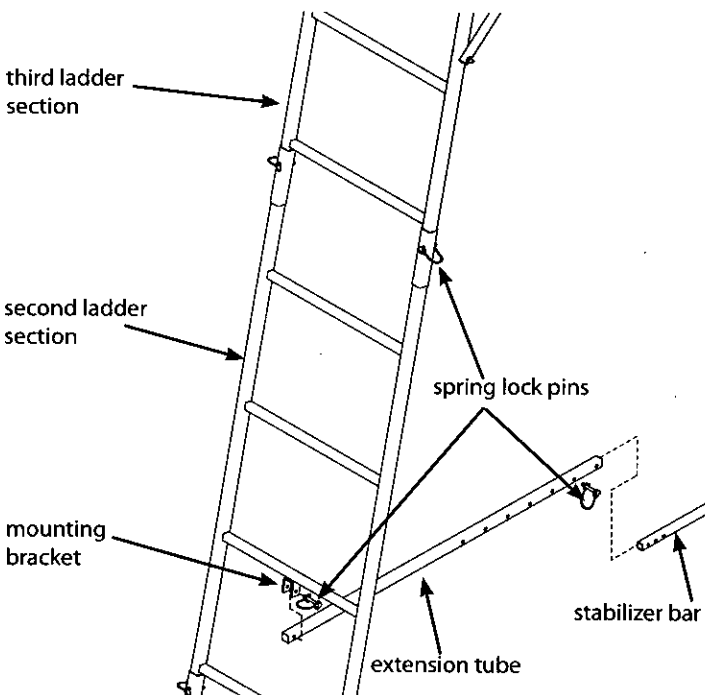

Figure 7
16. The remaining (2) ladder sections are assembled to the top ladder assembly on the ground in the following order: bottom section (SL51 ladder); second section (SL52 ladder); third section (SL78 ladder); top section (assembled top, platform section). **SEE FINISHED 17' SPIN SHOT LADDER.**
17. With all sections assembled together on ground, secure all sections together using (4) provided spring lock pins. Handle of spring lock pin must be put to the outside of ladder side rails. **SEE FIGURE 7.**
18. a. Attach the stabilizer bar extension tube (48053) to the second ladder section mounting bracket using (1) provided spring lock pin. **SEE FIGURE 7.**
b. Slide the stabilizer bar (48052) into the extension tube and attach the two pieces together using (1) provided spring lock pin. Spring lock pin must go through both the extension tube and stabilizer bar at appropriate hole to achieve desired distance from tree. Adjustment in length may be needed when ladder is uprighted later in instructions. **SEE FIGURE 7.**